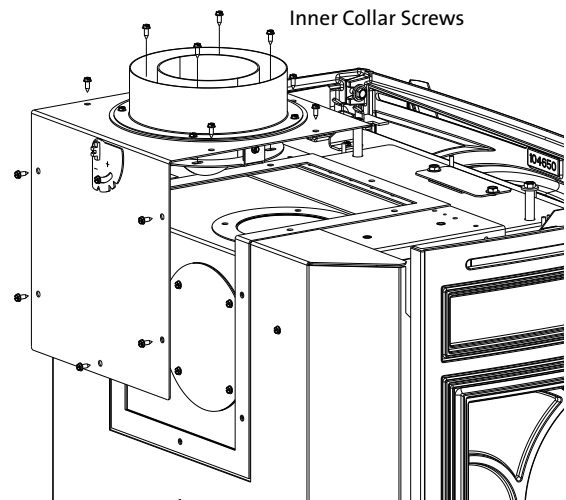

Figure 2.3. Remove 4 inner collar screws and 10 perimeter screws to detach the Vent Adaptor from the firebox.
1. Use a 1/4" nut driver to remove four inner screws from around the Vent Adaptor collar. See fig. 2.3. Remove five screws from around the top perimeter, and five additional screws from the rear perimeter. The vent adaptor will come away as an assembly.